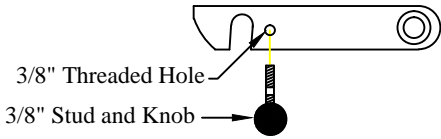

Figure 18: Original Series platform latch knob.
1. **Install** the two (2) knobs on the platform latches (Original Series only) see (Figure 18).